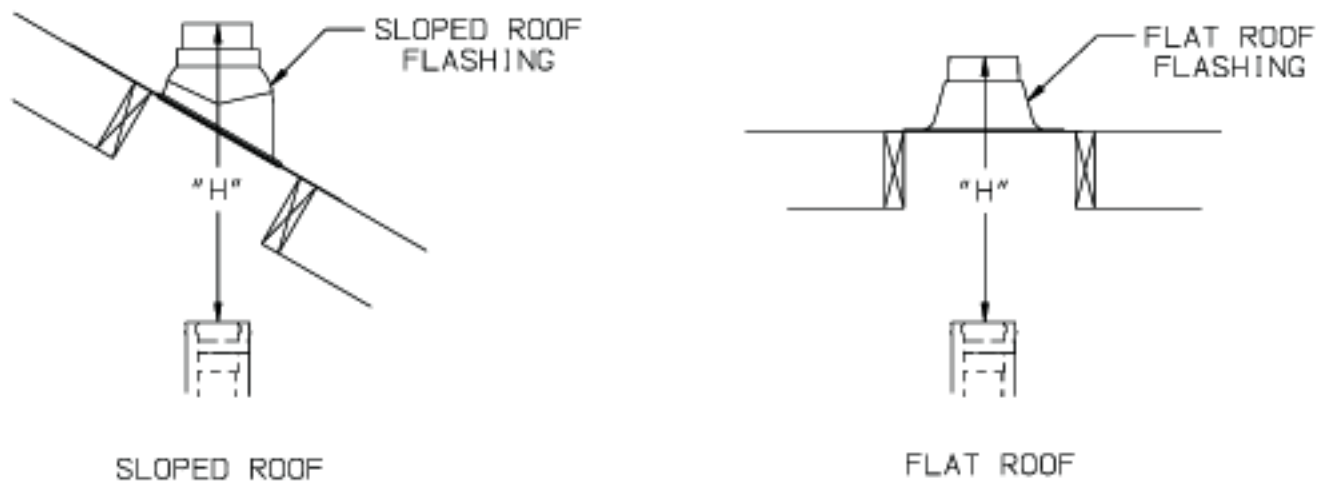

FIGURE 6.21a: DIMENSION "H"
- If not already done, assemble the venting system inside the building. The last section of pipe needs to be on the same center line as the terminal and within 28" of the top edge of the roof flashing (Figure 6.21a).
- Measure distance "H" from the top edge of the storm collar to the end of the last fitting as shown in Figure 6.21a.